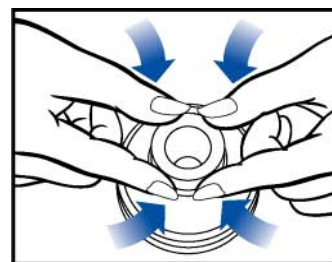

Figure 7
3. Place large end of Cup on a flat surface and fold reinforced portion of liner into groove at small end of Cup. See **Figure 7**.